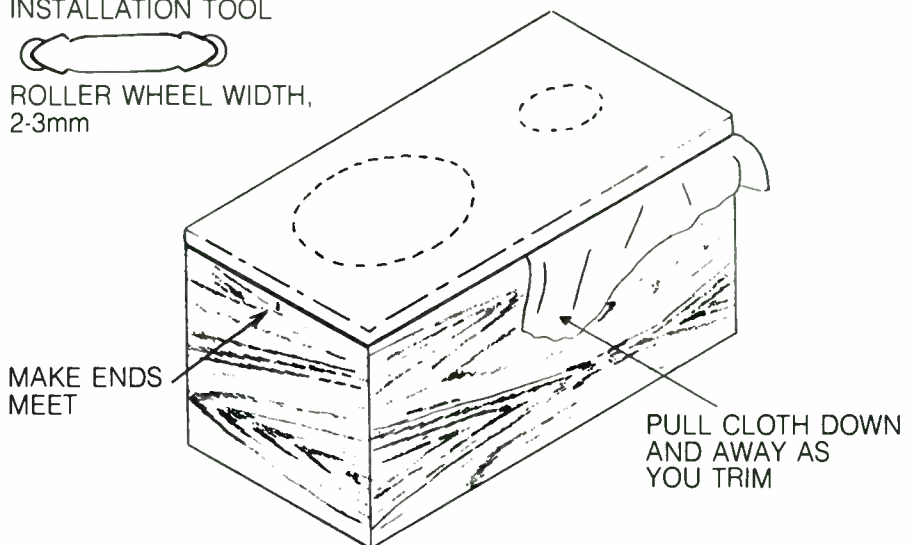

FIGURE 2: Trimming and completion guidelines.
10. Insert the remaining cord on the bottom panel until it meets the other end (Fig. 2). Carefully cut the excess cord and use the roller tool to fully insert the cord for a flush end-to-end result.